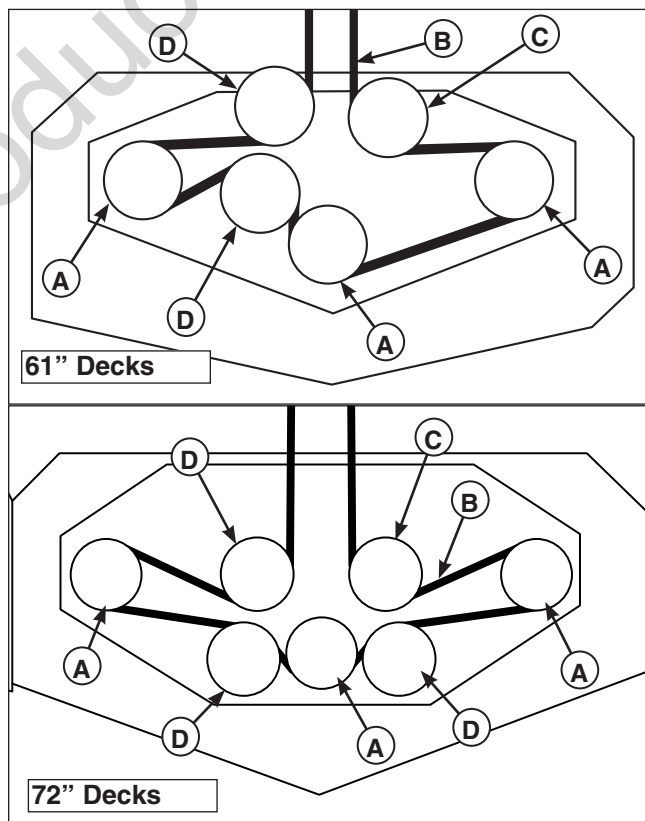

Figure 45. Mower PTO Belt Routing
4. Slide the drive belt over the edge of the stationary idler pulley (B). Carefully release the tension on the breaker bar or the combination wrench.
5. Remove the old belt and replace with a new one. Make sure the V-side of the belt runs in the pulley grooves (Figure 45).